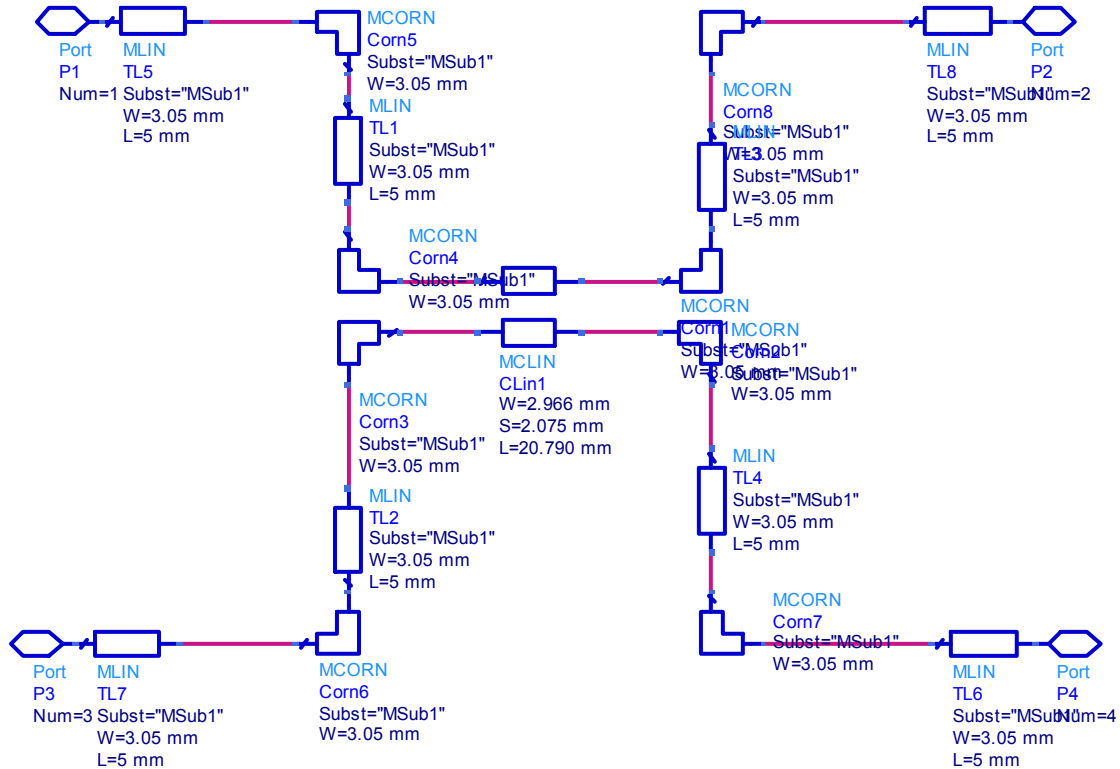

Figure 3: Complex coupled line coupler schematic
3. Arrange the lab7_20db2 schematic so that each port of the MCLIN element has an MCORN, a 5mm, 50-ohm MLIN, another MCORN element, and another 5 mm 50-ohm MLIN followed by a port as shown below in Figure 3. Assign ports 1 through 4 the same as in the previous section. Obtain a printout of the schematic for your report.